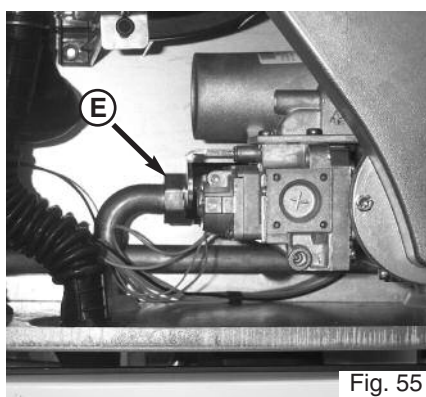

Fig. 55
8. Unscrew the gas valve nut **E** (Fig. 55);